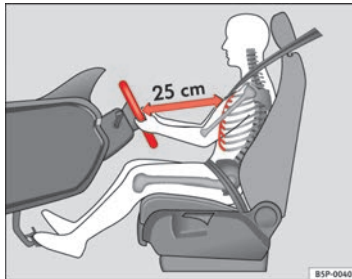

Fig. 1 The proper distance between driver and steering wheel
- Adjust the steering wheel so that there is a distance of at least 25 cm between the steering wheel and the centre of your chest ⇒ Fig. 1.
<ul style="list-style-type: none"> ● An incorrect sitting position of the driver can lead to severe injuries. ● Adjust the driver seat so that there is at least 25 cm distance between the centre of the chest and the centre of the steering wheel ⇒ Fig. 1. If you are sitting closer than 25 cm, the airbag system cannot protect you properly. ● If your physical constitution prevents you from maintaining the minimum distance of 25 cm, contact a specialised workshop. The workshop will help you decide if special specific modifications are necessary. ● When driving, always hold the steering wheel with both hands on the outside of the ring at the 9 o'clock and 3 o'clock positions. This reduces the risk of injury when the driver airbag is triggered. ● Never hold the steering wheel at the 12 o'clock position, or in any other manner (e.g. in the centre of the steering wheel). In such cases, if the airbag is triggered, you may sustain injuries to the arms, hands and head. ● To reduce the risk of injury to the driver during sudden braking manoeuvres or an accident, never drive with the backrest tilted far back! The airbag system and seat belts can only provide optimal protection when the backrest is in an upright position and the driver is wearing his or her seat belt properly. The further the backrests are tilted to the rear, the greater the risk of injury due to incorrect positioning of the belt web or to the incorrect sitting position! ● Adjust the head restraint properly to achieve optimal protection.